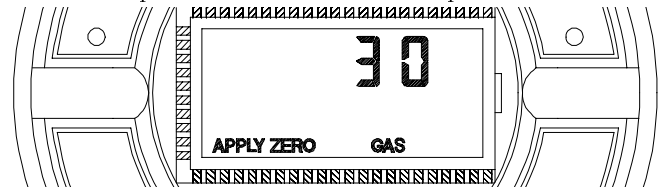

Figure 3. Apply Zero Gas Flag
- **APPLY ZERO GAS** Flag (FIGURE 3)